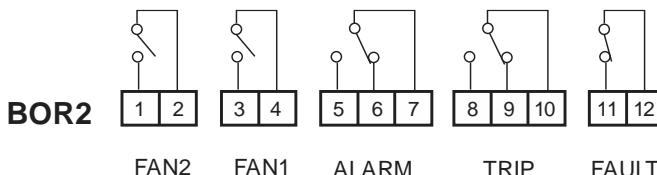
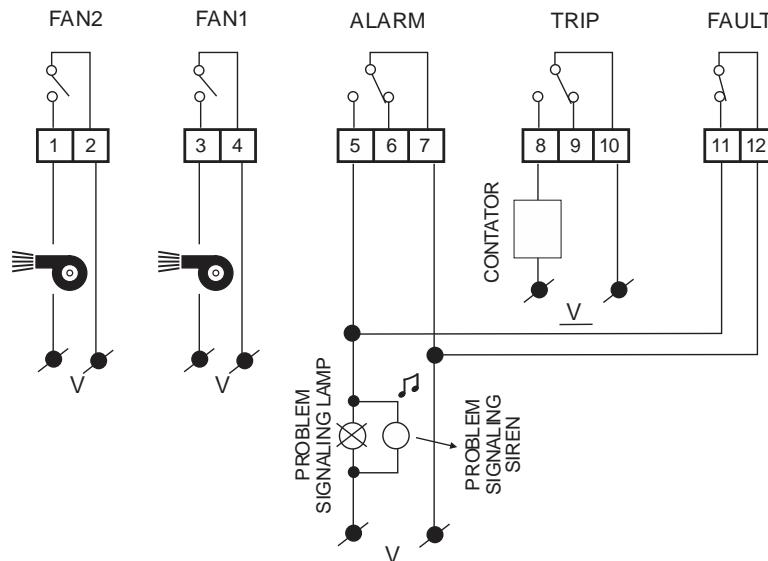

Figure 3 - Alarm, trip and fan relay connections
Figure 6 – Wiring diagram
- It reads the sensors on the channels S1, S2, S3 and Tamb. If some of them arrives above the programmed value of ALARM for 5s, the ALARM led will light up. If it persists for more than 15s, ALARM relay will be activated, contacts closed between pins 5 and 7 (Figure 3). If the key  is pressed for more than 5s, the ALARM relay will open the contacts 5 and 7 (this feature is useful in the case of ALARM relay is connected to a siren and the user want to stop the sound), although led ALARM will remain lit up till the measured temperature of all sensors goes down the programmed value of ALARM. In the case of turned-off by the user, the ALARM relay will activates again only when a new alarm condition occurs.
- If the temperature continues to increase and one or more sensors exceeds the value programmed in TRIP by 1°C for 5 s, the TRIP led will light up. If the situation persists for more than 15 seconds, the TRIP relay will be activated, contacts closed between pins 8 and 10 (Figure 3). When the TRIP is activated, ALARM is activated, since ALARM is a precondition for TRIP.
- When the temperature decreases by 1°C to the value programmed in TRIP, the TRIP led will turn-off and the relay will return to the previous condition, contacts opened between pins 8 and 10 (Figure 3).
- When the temperature decreases by 1°C to the value programmed in ALARM, the ALARM led will turn-off and the relay will return to the previous condition, contacts opened between pins 5 and 7 (Figure 3).
- PT100 sensors tests: The possible failures to detect are PT100 sensor open or short circuit. If a fail is detected, the message  followed by the name of the sensors in fault condition (   or ) will appear on the display. The FAULT LED, together with the respective faulty sensor LEDs, will flash. The FAULT relay will close the contacts, contact is closed between pins 11 and 12 (Figure 3). If the faulty condition is solved, the FAULT led will turn off and the FAULT relay will open the contacts again, contacts opened between pins 11 and 12 (Figure 3).
- If any sensor exceeds the temperature of the parameter Fon for more than 15 seconds, the FAN1 relay will activate (Figure 3, contacts 3 and 4 closed). The relay will turn-off when the temperature of all sensors are lower than the programmed value of parameter Fof (Fan off). The same applies to the parameters of FAN2 and the relay FAN2 (Figure 3, contacts 1 and 2).
Figure 3 shows the pinout of the controller output relays. According to the diagram of Figure 6, the FAULT relay operates normally closed, which means that the controller will indicate a failure condition in the case of a power fault (no power supply on BOR3).